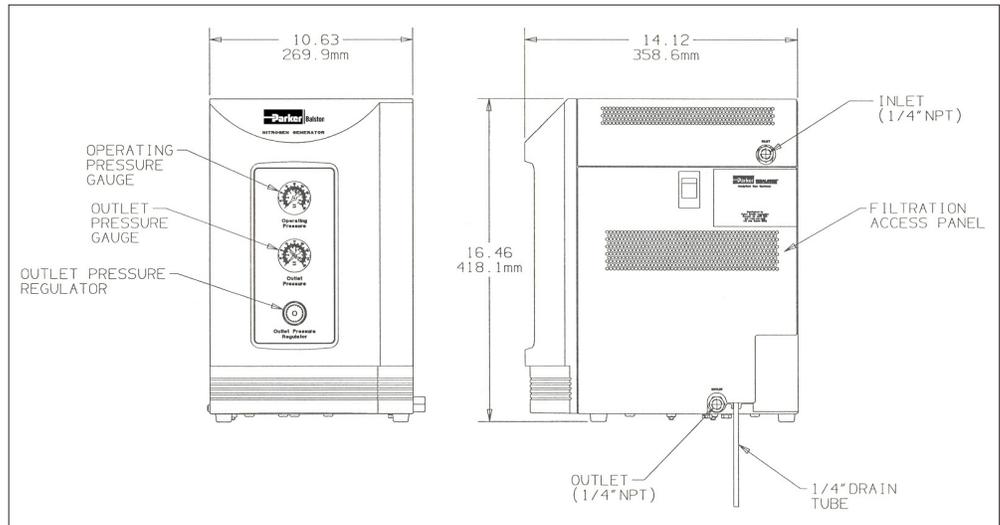

Figure 1 - N2-04 Nitrogen Generator
The N2-04 Nitrogen Generator includes all the components required to convert compressed air into high purity nitrogen (see Figure 1). The user need only connect a supply of compressed air to the inlet of the nitrogen generator and connect the outlet of the generator to the process requiring high purity nitrogen.
Two stages of coalescing prefiltration are incorporated into the N2-04 Nitrogen Generator to protect the membrane module from contamination. These filters are located behind the filtration access panel, and they remove liquids and particulate matter from the incoming air supply. The filters are equipped with float drains which automatically open to empty any liquids which accumulate inside the filter housing. The drains are connected to 1/4" O.D. plastic tubing which discharges to atmosphere at the back of the nitrogen generator (see Figure 1).
The controls in the Balston Nitrogen Generator consist of an inlet pressure gauge, an outlet pressure gauge, and a pressure regulator (see Figure 1). Proper use of these controls will assure the user of a 95% to 99% nitrogen outlet stream. The pressure gauges, which are mounted on the front panel, measure operating pressure and outlet pressure. The outlet pressure regulator allows the user to set the pressure of the emergent nitrogen process stream.
Drain Lines - The 1/4" plastic drain lines from the first two stages of prefiltration (see Figure 1) should be piped away to an appropriate disposal container. The liquid in this drainage will consist primarily of water and compressor oil and should be disposed of properly.
- 3 Set the Outlet Pressure Regulator (see Figure 1) to the desired outlet nitrogen pressure.